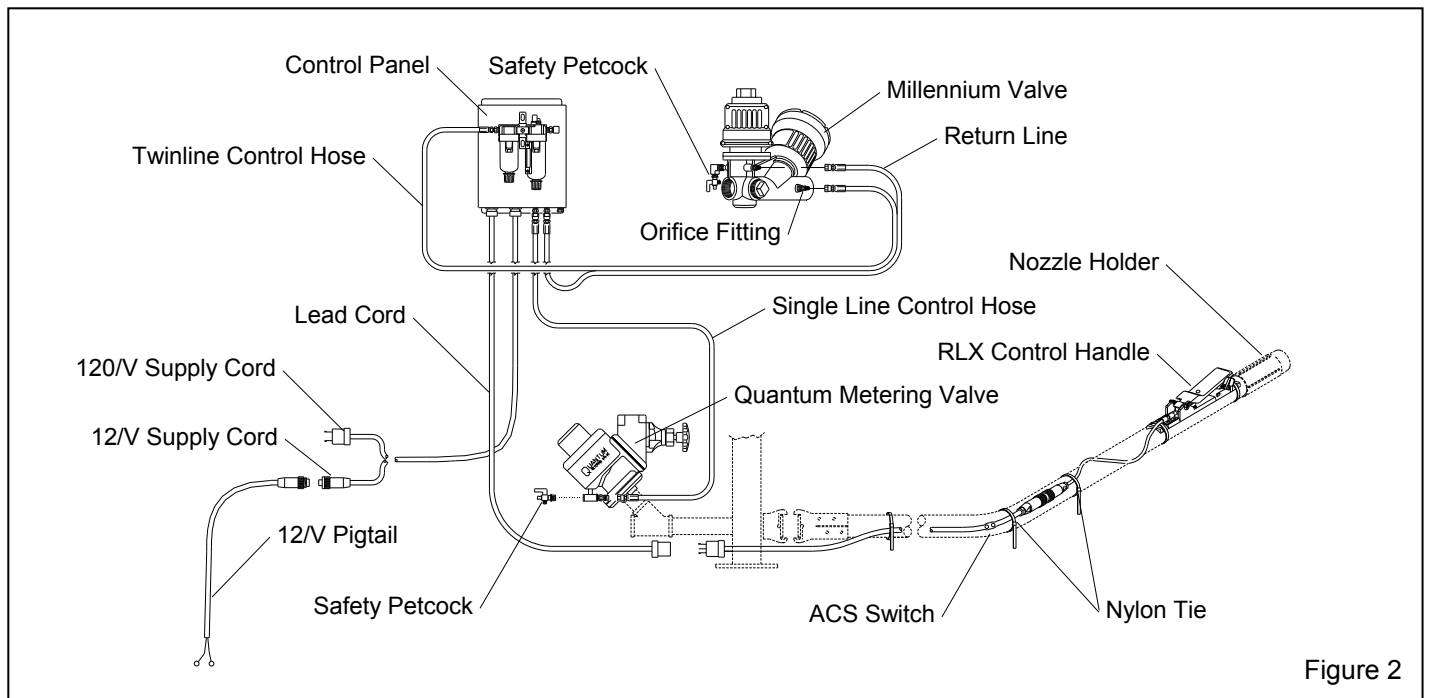

Figure 2
1.3.4.1 The components of the Millennium electric remote control system with ACS are shown in Figure 2. They include the Millennium Valve, Auto-Quantum pneumatically-operated abrasive metering valve, RLX Control Handle, 50-ft. control cord, 4-ft. long twinline control hoses, and all necessary fittings
2.1 Control Panel, Ref. Figure 2
2.1.3 Attach the free end on the other side of the twinline hose (shown as "Return line" in Figure 2) to the fitting on the bottom of the control panel marked "Air Valve".
2.2 Blast Hose and Control Cord Connections, See Figure 2.